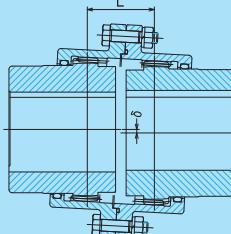

Figure 1
When offset misalignment exists, the coupling gear tooth tilts by $\tan \phi = \delta / L$ as shown in Figure 1. When the shafts are concentric, the gear tooth is in contact at the crowned tooth center (R_o) as shown in Figure 3(a). However, when the shafts have offset or angular misalignment after installation the gear tooth comes into contact at the point (R) away from the tooth center as shown in Figure 3(b). The larger the tilting angle is, the remoter the contact